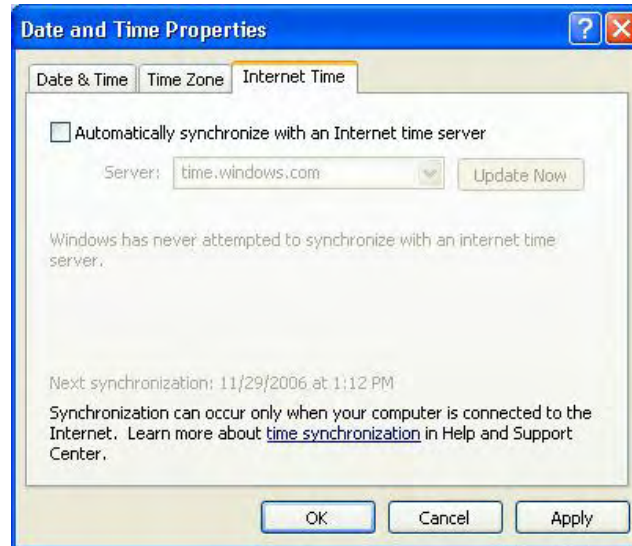

Figure 1-69. Verify Internet Time Is Not checked
8. Click on the **Internet Time** tab (Figure 1-69).